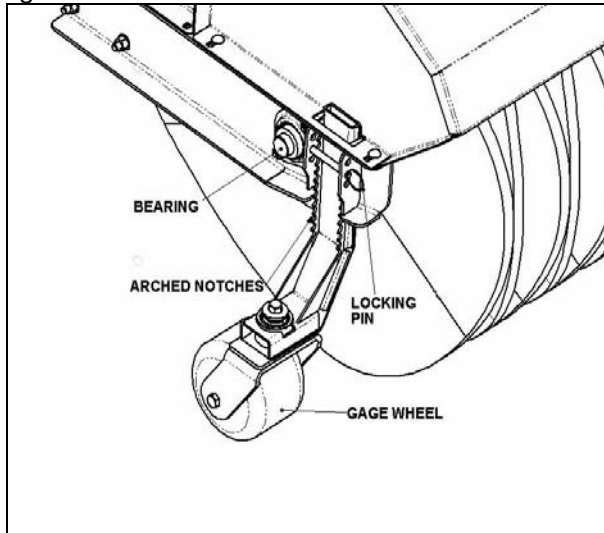

Figure 3-5
3. Lift the Brush and adjust the wheels to the desired height, depending on the degree of aggressive desired. Secure the gage wheels with the offset locking pins (Figure 3-5) to achieve proper locking tightness.
- c. Remove the bearing (Figure 3-5) on each side of the brush and slide out the shaft.